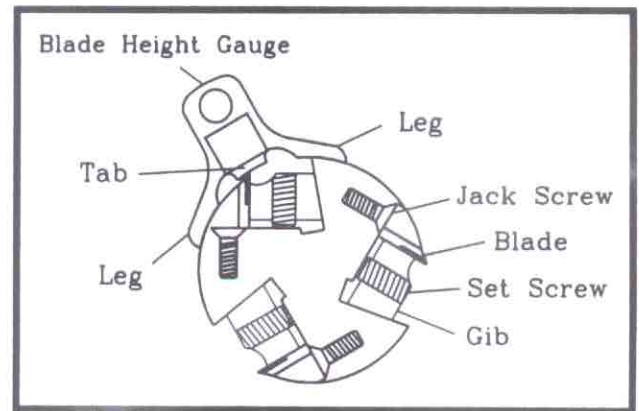

Fig. 4
7. Raise or lower knife by turning jack screw. Knife is at correct height when knife tip just touches center tip of knife gauge. (Fig. 4)